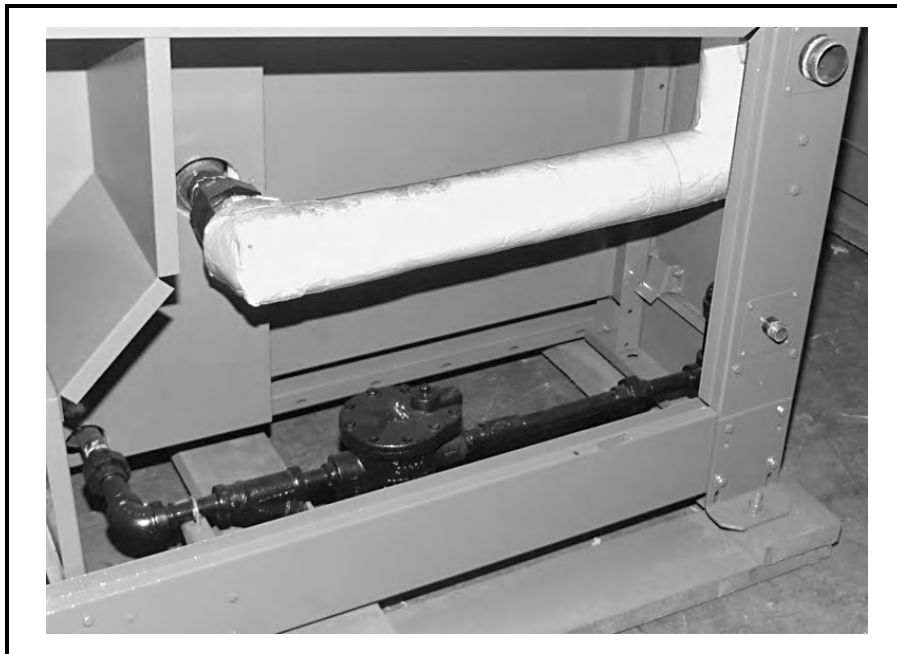

FIGURE 1 (MSSM0102BE)
1. Maintain the bypass piping (machines with optional ON/OFF valve, FIGURE 1) in good working order, to prevent cracking and popping sounds when steam is turned on. Do not operate Dryer unless bypass piping is in good working order.
1. Each Dryer has a strainer and steam trap (FIGURE 1), to handle steam that condenses in the coil as it heats the passing air which dries the goods.